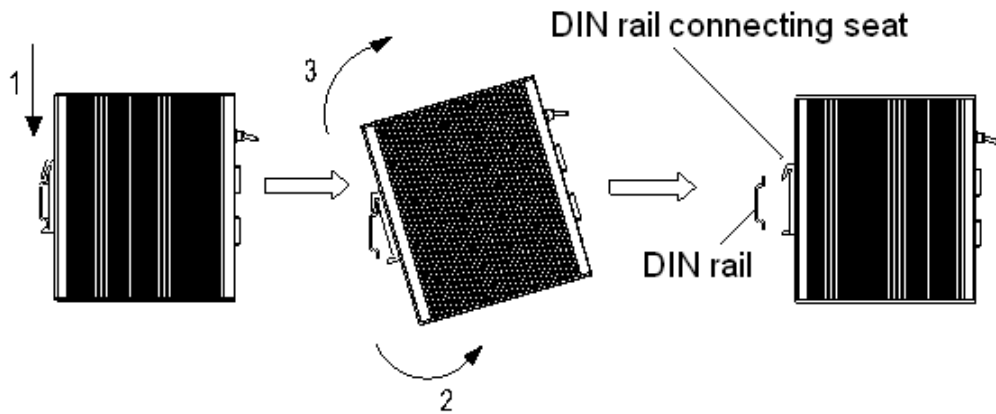

Figure 6 Removing KPS2204 from a DIN Rail
Step 1: As shown in Figure 6, press the connecting seat of KPS2204 downward to ensure adequate space below the seat for KPS2204 to move.